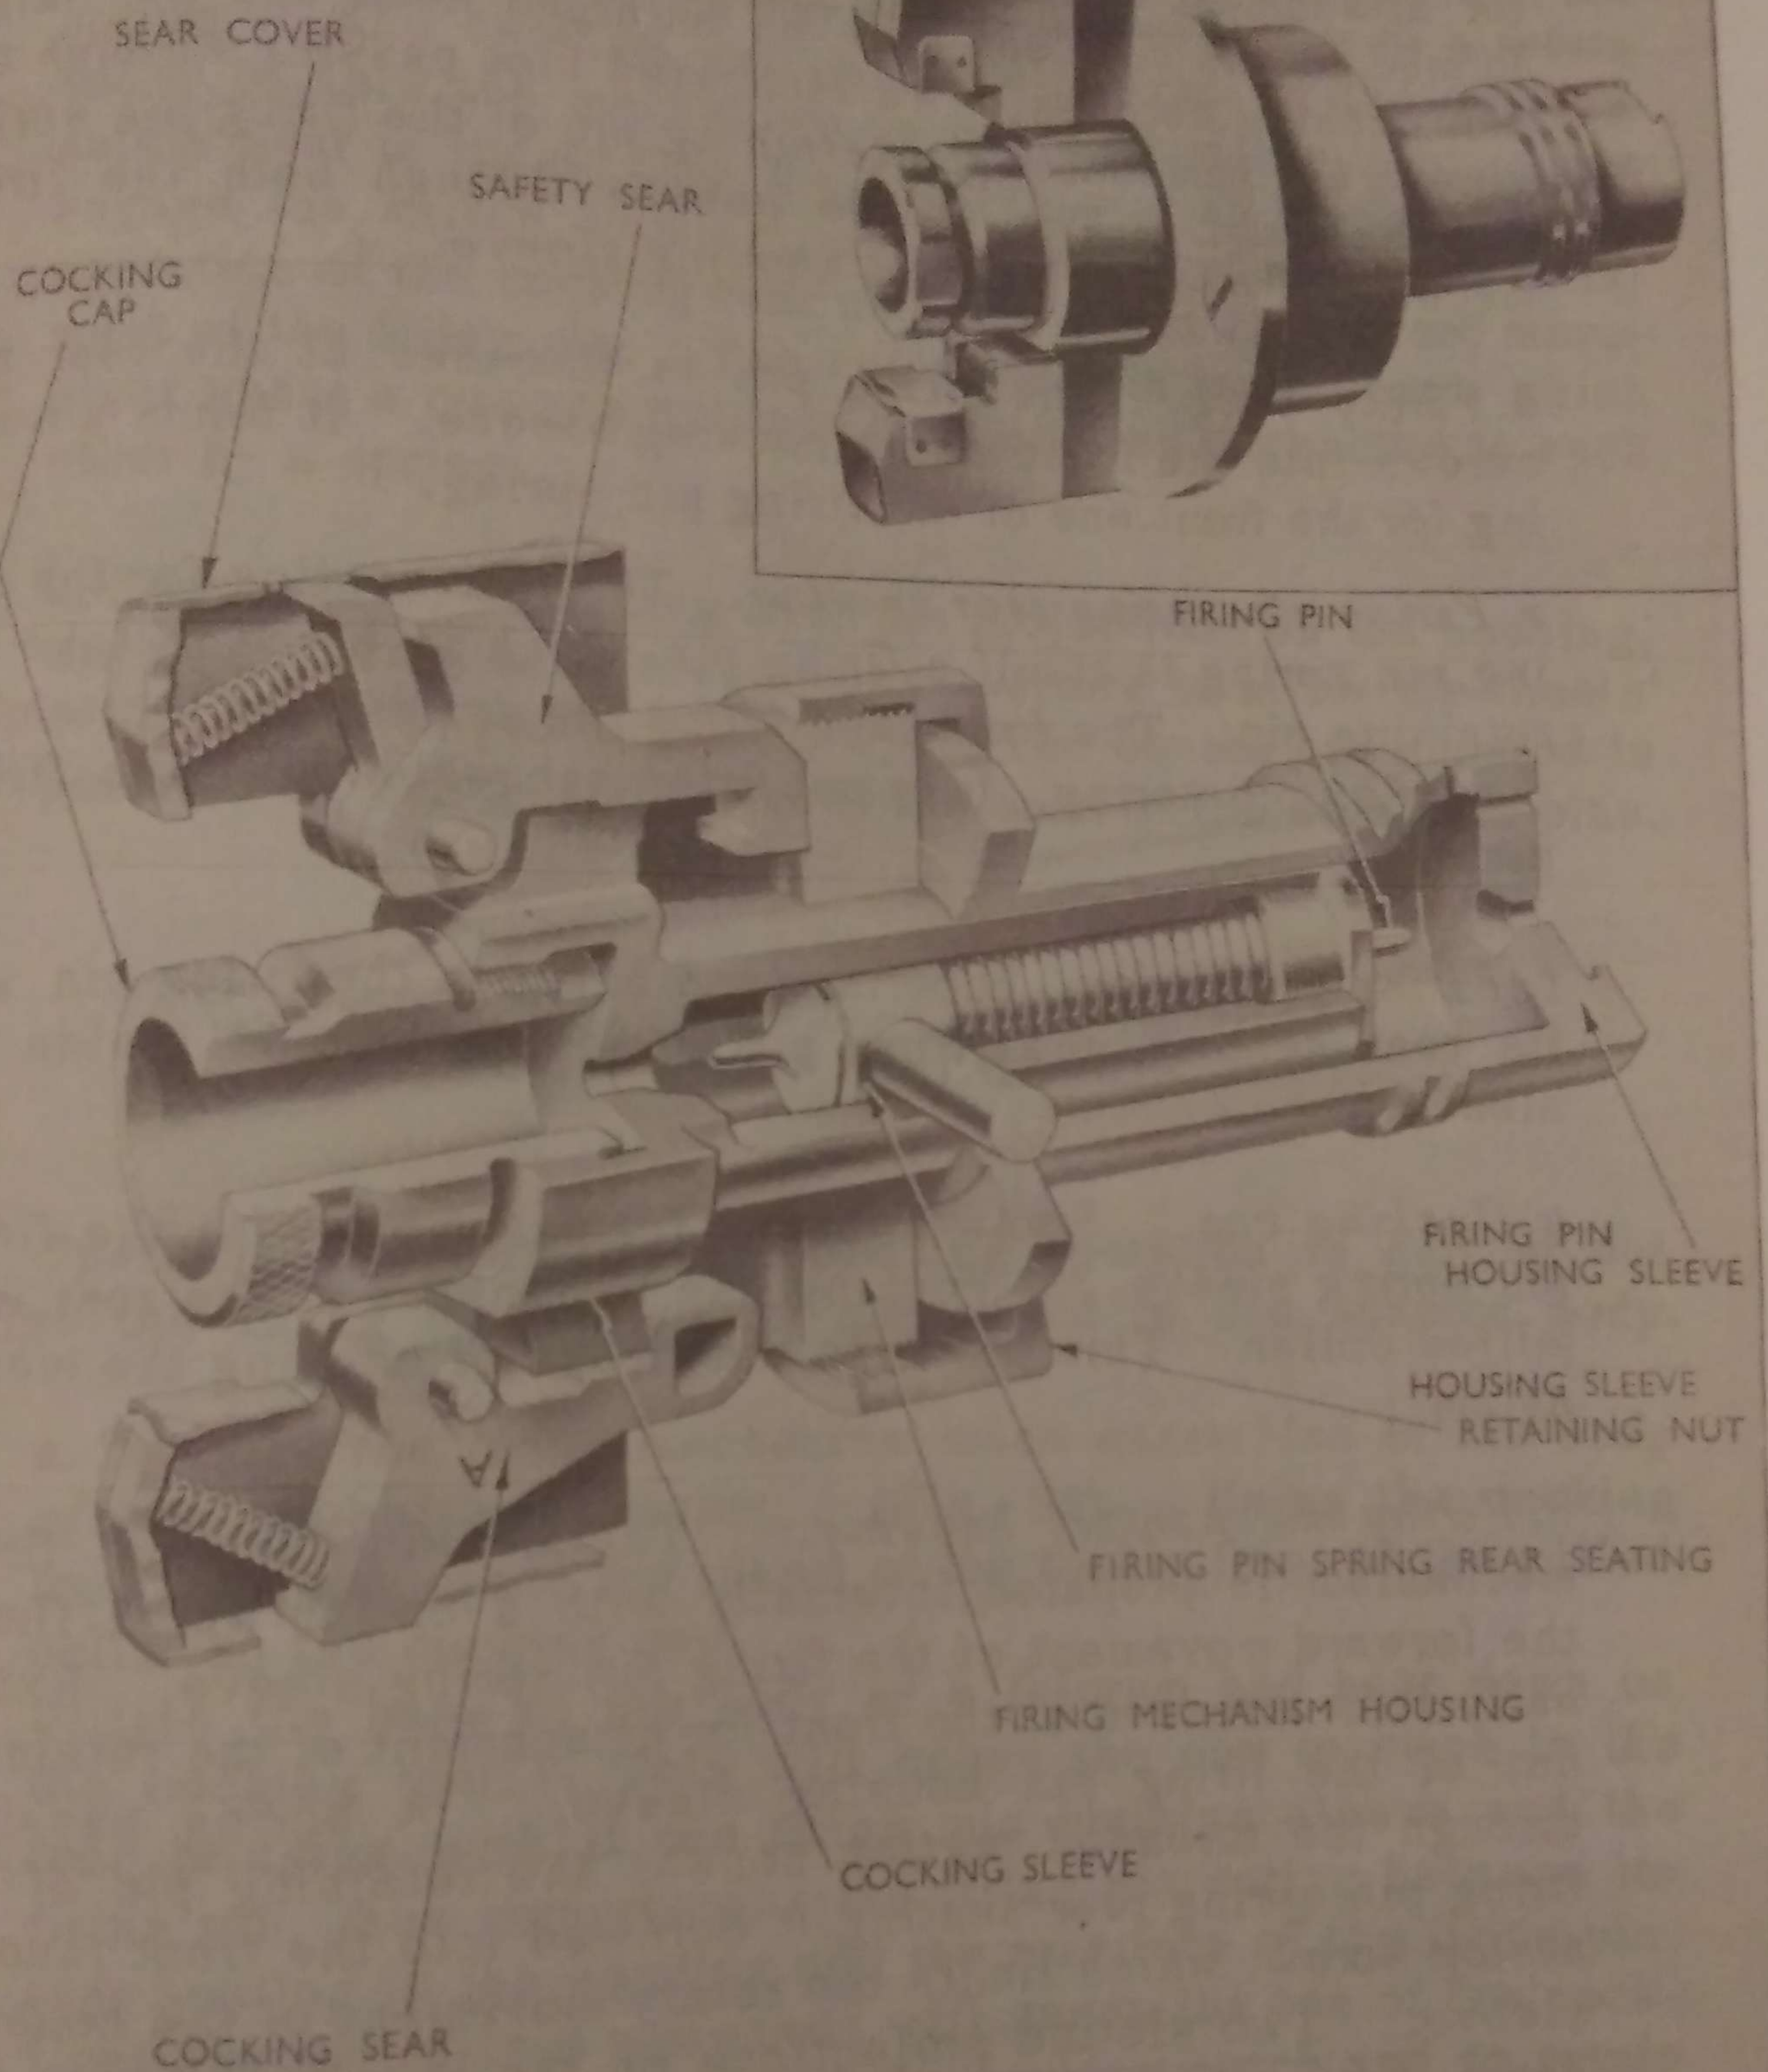

Fig 25 *Firing Mechanism for Sub-Calibre Adaptor*
67. *Firing Mechanism.* The percussion type firing mechanism (Fig 25) is assembled in the base of the body. At all times it must be cocked before it can be withdrawn from the body. The principle components are: